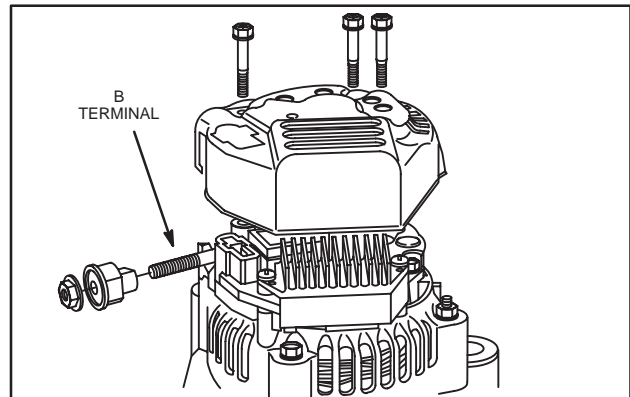

Fig. 22 – Remove Rear Cover
3. Remove three screws and brush cover, Fig. 22.